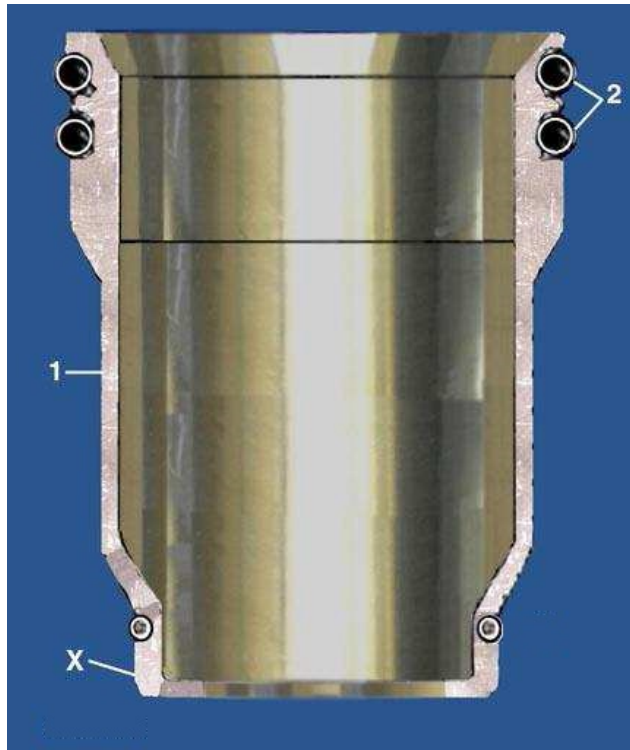

Figure 1.
2. Use retaining compound to contact surface of electronic unit injector sleeve on surface having Marked "X" in Figure 1. (4C-9507, 185-3988 or Loctite 620).